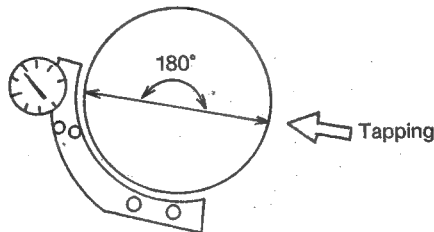

Fig. 7-7-9
- 3) Adjust the position of the Center Drum by tapping lightly with the plastic handle of a screwdriver on the side of the Drum opposite from the point of measurement as shown in figure 7-7-9. And stop tapping when the meter reads middle of the error amount.